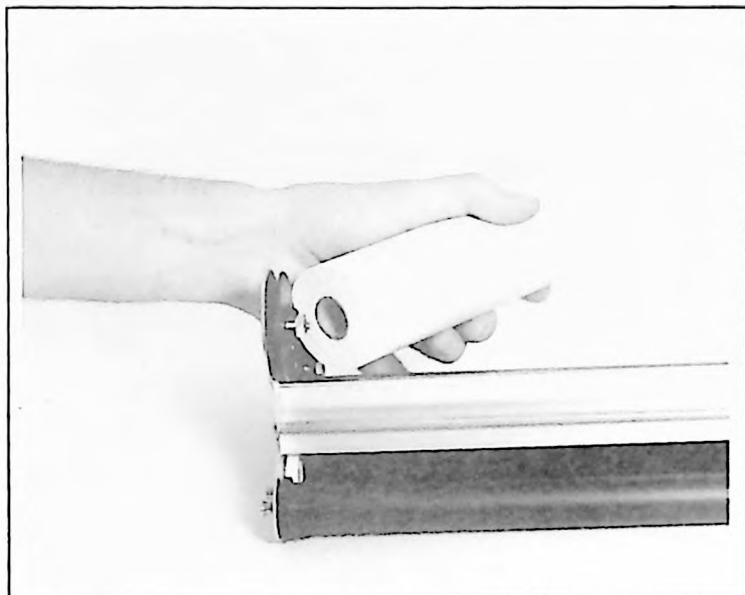

Figure 3-6. Supply Roll Set-Up
- c. Insert supply roll in chart magazine. (Slots in paper roll must align with notches in supply hub.) See Figures 3-6 and 3-7.